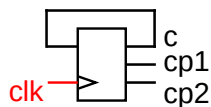

Figure 2: Block diagram of design 2. The block with the clk signal must be described with a single `process(clk)`.
- c) Next describe the block diagram of *Figure 2* in VHDL, in such a way that the waveforms of the signals c , $cp1$ and $cp2$ of both designs are the same².